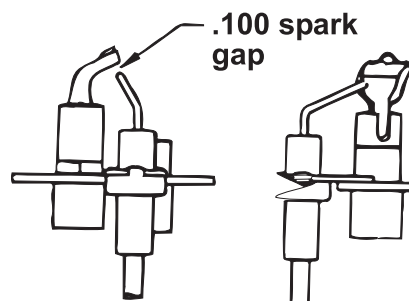

Figure 35. Pilot Spark Gap
- Check spark gap and ensure that gap is maintained to be 0.1 inch as shown in Figure 35.